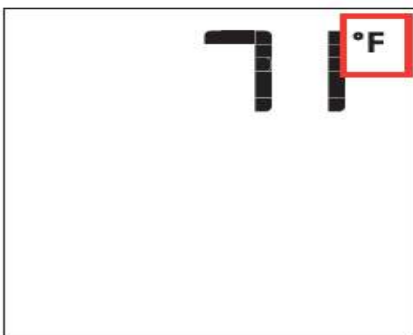
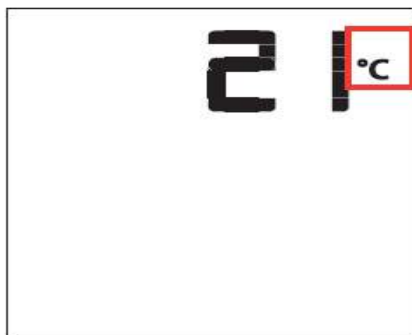

Fig. 4: Remote Control display in Farenheit.
Fig. 5: Remote Control display in Celsius.
4. Line up the hinges (on the louvers) and on the appliance and fasten the louvers with the 4 screws provide in the louver package. (Fig. 4)
With the system in the "OFF" position, press the Thermostat Key and the Mode Key at the same time. Look at the LCD screen on the Transmitter to verify that a C or F is visible to the right of the Room Temperature display. (Fig. 4 and fig. 5)